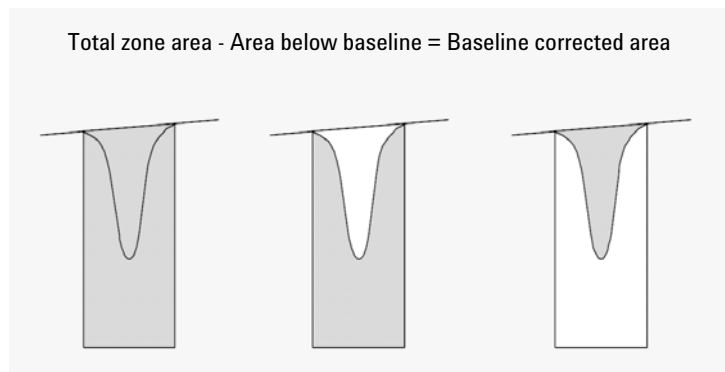

Figure 12 Area Measurement for Negative Peaks
- negative peaks that occur below the baseline have a positive area, as shown in Figure 12 on page 34.